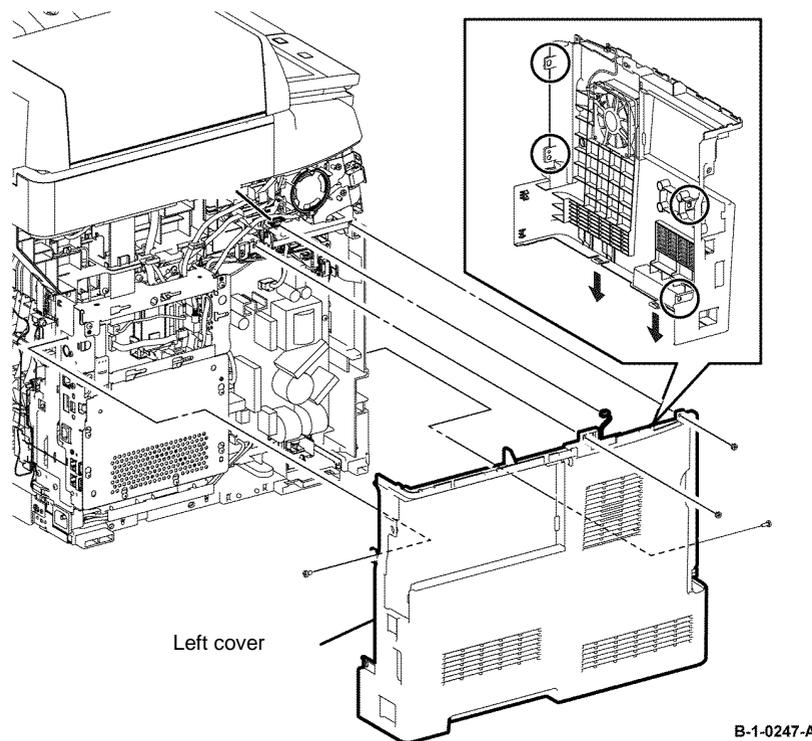

Figure 2 Left cover removal
8. Remove five screws (silver, tapping, 8mm), (silver, M4, 6mm) that fix the left cover, Figure 2.
9. Disconnect PJ241 from the LVPS PWB, then release the harness clamp from the printer, Figure 2.